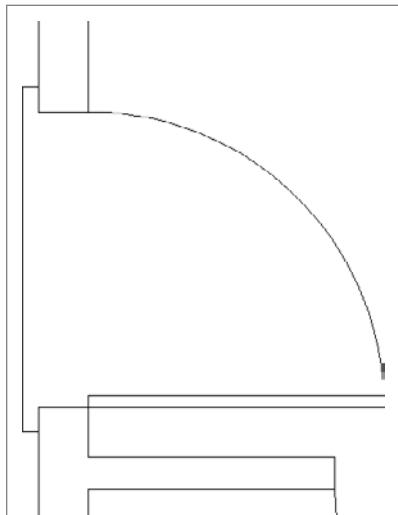

FIGURE 5.10 The completed back threshold
8. Press ↵ to end the LINE command. The back threshold should look like Figure 5.10.